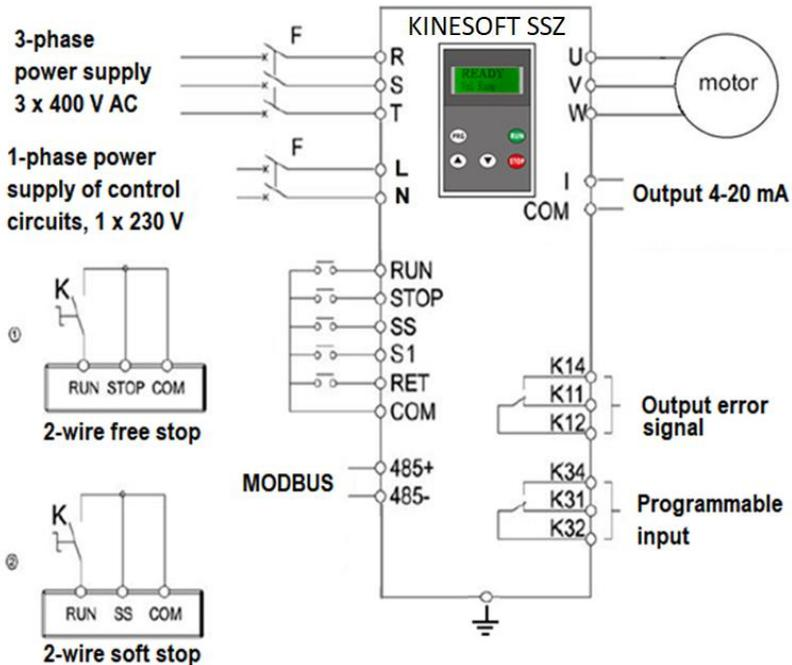

Figure 8.0
There are two ways to control the external start and stop of the soft starter. (See ① and ② in Figure 8.0 above). The start signal is given by connecting the terminals RUN and COM. The stop signal is given by disconnecting the RUN and COM terminals.
①: You can choose two connection modes, see figure 8.0.
②: Fault, bypass and programmable output terminals are de-energized.
③*: Output terminals (K22 / K24) are also used in the SSN product line.